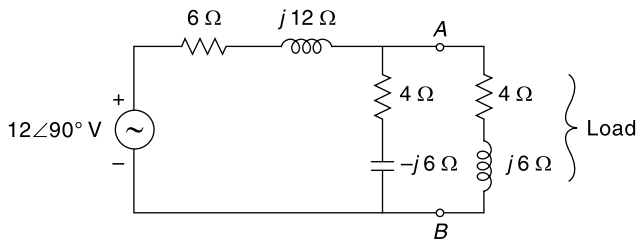

Fig. 6.18 Circuit of Ex. 6.16
6.16 Find the current through the load in Fig. 6.18 using Thevenin's theorem.